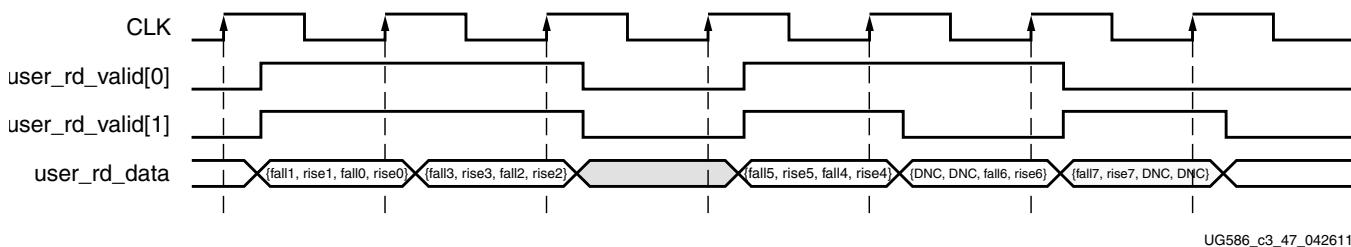

Figure 3-44: Client Interface Protocol Read Data
When a read command is issued some time later (based on the configuration and latency of the system), the **user_rd_valid[0]** signal is asserted, indicating that **user_rd_data** is now valid, while **user_rd_valid[1]** is asserted indicating that **user_rd_data** is valid, as shown in Figure 3-44. The read data should be sampled on the same cycle that **user_rd_valid[0]** and **user_rd_valid[1]** are asserted because the core does not buffer returning data. If desired, you can add this functionality.
1. Shown in Figure 3-44.